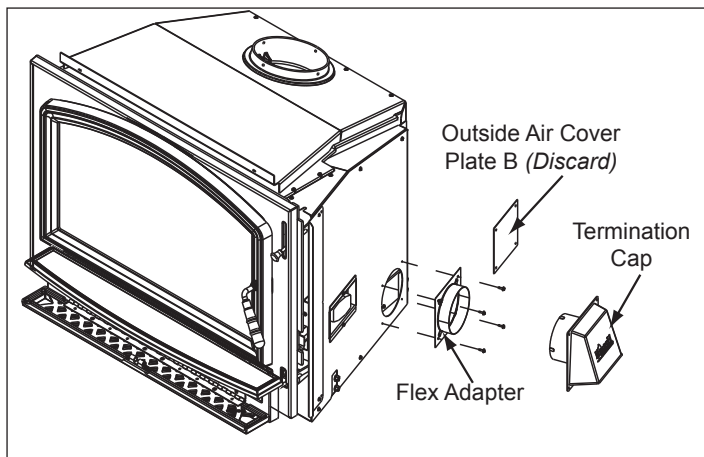

Figure 17.2
5. Remove the outside air cover plate B on outer can and discard. **Figure 17.2.**